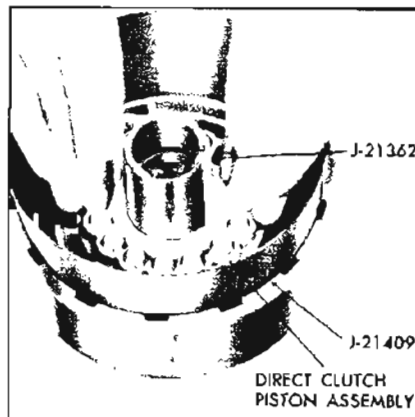

Figure 5-637
4. Place seal protectors, tools J-21362 - Inner, J-21409 - Outer, over hub and clutch housing and install clutch piston. See Figure 5-637.